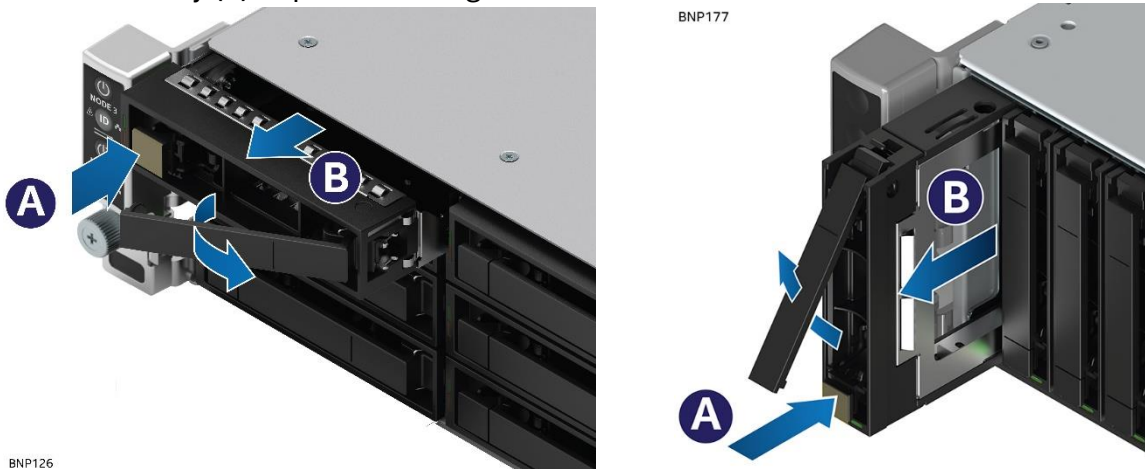

Figure 30. Removing a drive carrier from the chassis
To remove a drive carrier, press the button on the carrier face plate to release the lever (A) and pull the carrier out of the drive bay (B) as pictured in Figure 30.